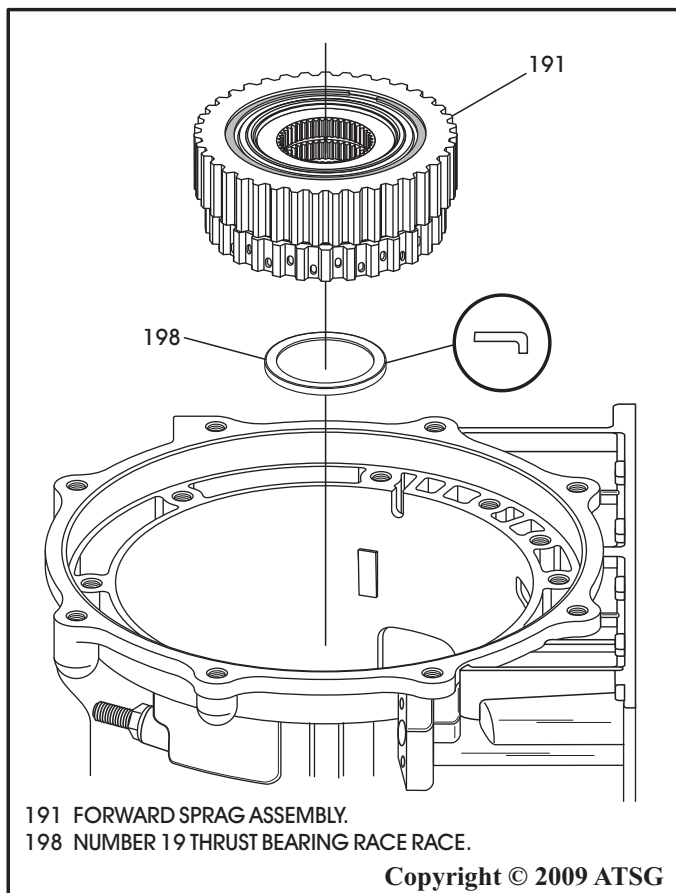

Figure 64
65. Remove the forward sprag assembly, as shown Figure 64.
66. Remove number 19 thrust bearing race from the hub in case, as shown in Figure 64.